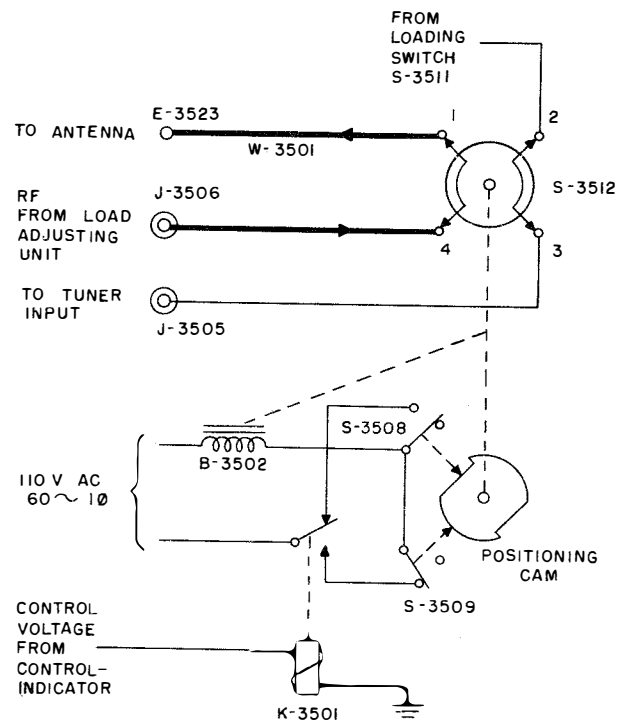

Figure 2-123. Antenna Bypass Switch S-3512, Simplified Schematic
(1) ANTENNA BYPASS SWITCH S-3512.—At certain frequencies, the actual antenna impedance is such that no tuning is required to meet the SWR reading of 2:1 required at the r-f output of the radio frequency amplifier. Also, it is sometimes desired to have the antenna and transmission line connected directly to a receiver (see paragraph 7g). To meet these conditions, antenna bypass switch S-3512 (figure 2-123) is introduced into the r-f transmission line.